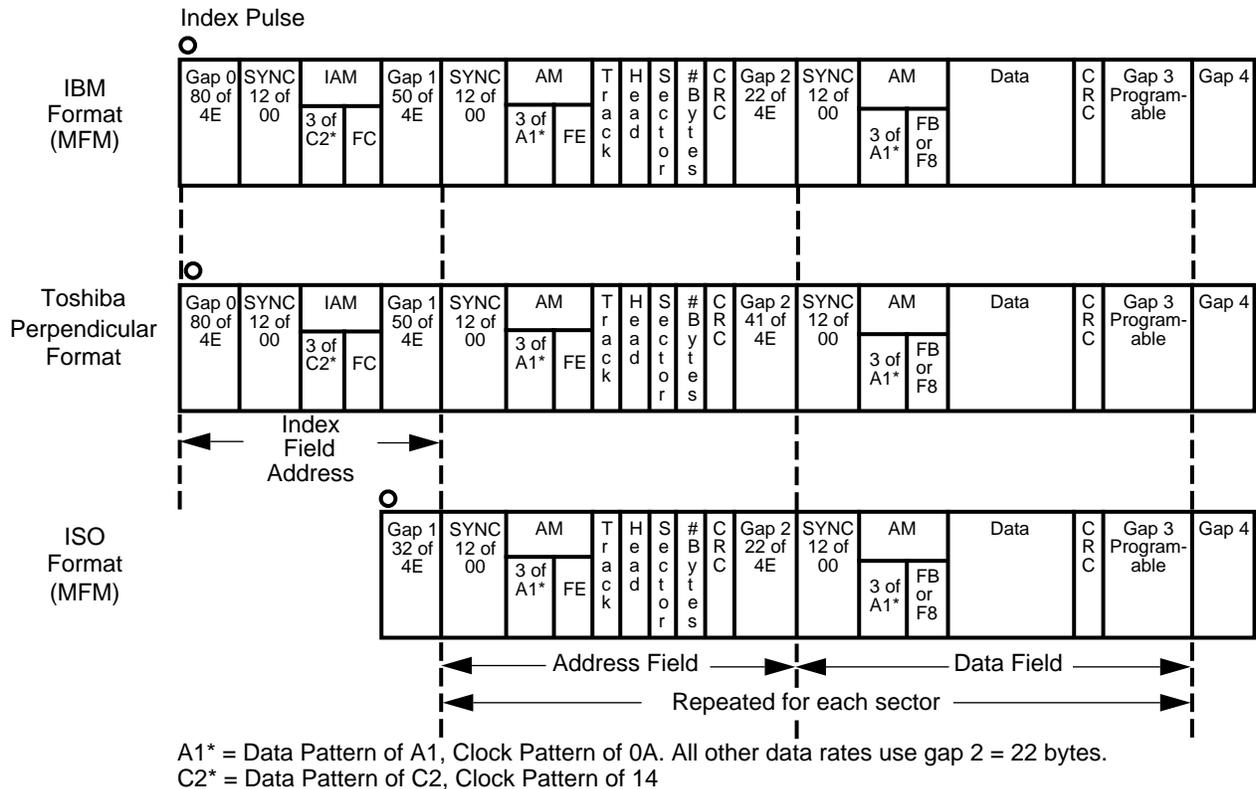

FIGURE 5-20. IBM, Perpendicular, and ISO Formats Supported by the FORMAT TRACK Command
After a pulse from the INDEX signal is detected, data patterns are written on the disk including all gaps, Address Marks (AMs), address fields and data fields. See Figure 5-20.
- b. Gap 3 is the suggested value for the programmable GAP3 that is used in the FORMAT TRACK command and is illustrated in Figure 5-20.
Figure 5-20 illustrates the track format for each of the formats recognized by the FORMAT TRACK command.
- b. Gap 3 is the suggested value for use in the FORMAT TRACK command. This is the programmable Gap 3 illustrated in Figure 5-20.